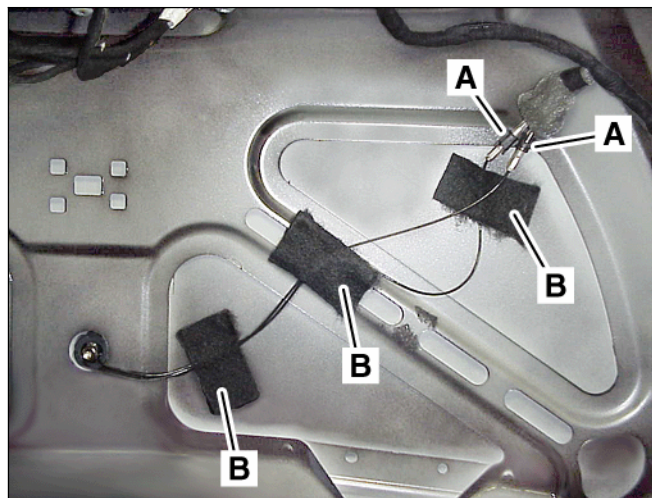

Figure 6
18. Fold back the foam sleeve to expose the connectors (A, Figure 6) of the preinstalled antenna leads on the trunk lid underside.
19. Install a plastic connector lock-clip on the antenna lead male connector (A, Figure 6).
20. Connect the preinstalled antenna leads to the SDAR antenna leads and fold down the foam sleeve over the coupled connectors (A, Figure 6).
21. Secure the antenna leads to the trunk lid underside with adhesive felt tape (B, Figure 6).